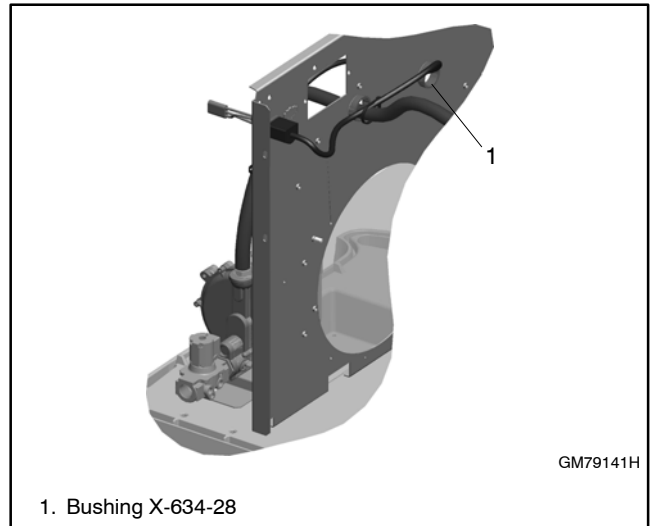
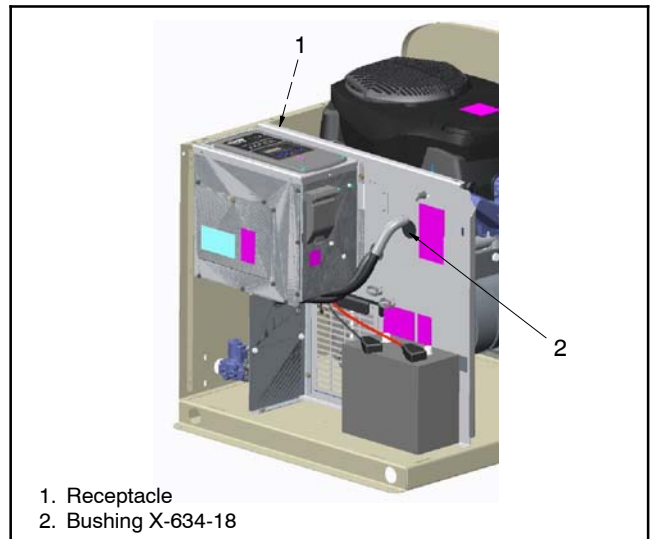

Figure 3 120VAC Power Cord and Receptacle for 14/20RES(L)/RESA(L) and 20RESC(L)
Figure 4 120VAC Power Cord and Receptacle for Model 8/10/12RESV(L)
8. **Models 14/20RESA/RESAL and 20RESC/RESCL:** Remove and discard the existing plug from the opening in the bulkhead. Insert bushing X-634-28 and discard bushing X-634-18 which is included in kit GM92406-KP3-QS. See Figure 3.
Models 8/10/12RESV(L): Remove and discard the existing plug from the opening in the bulkhead. Insert bushing X-634-18 and discard bushing X-634-28 which is included in kit GM92406-KP3-QS. See Figure 4.
9. Route the power cord through the opening in the bulkhead. See Figure 3 and Figure 4. Avoid contact with any sharp edges.
10. Plug the heater's power cord into the 120 VAC receptacle. See Figure 3 and Figure 4. If this kit is used with a carburetor heater kit, use the 3-way extension cord included in that kit to plug multiple AC accessories into the receptacle.